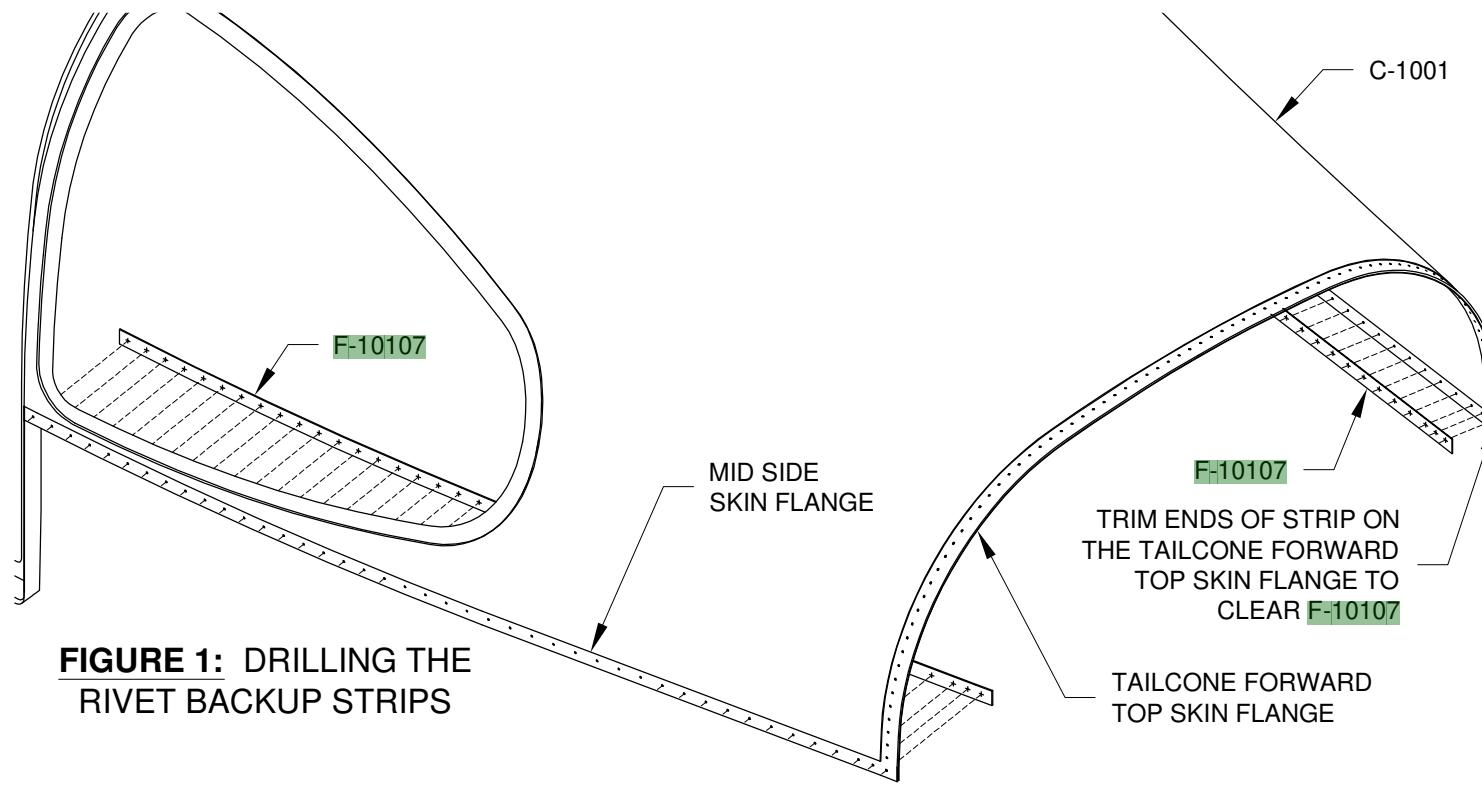

FIGURE 1: DRILLING THE RIVET BACKUP STRIPS
Step 1: Clamp the **F-10107** Rivet Backup Strips, shown in Figure 1, to the mid side skin flanges so that the bottom of the strips are even with the bottom of the flanges. Trim the ends of the strip which is on the tailcone forward top skin flange to clear the rivet backup strips (see Figure 1).